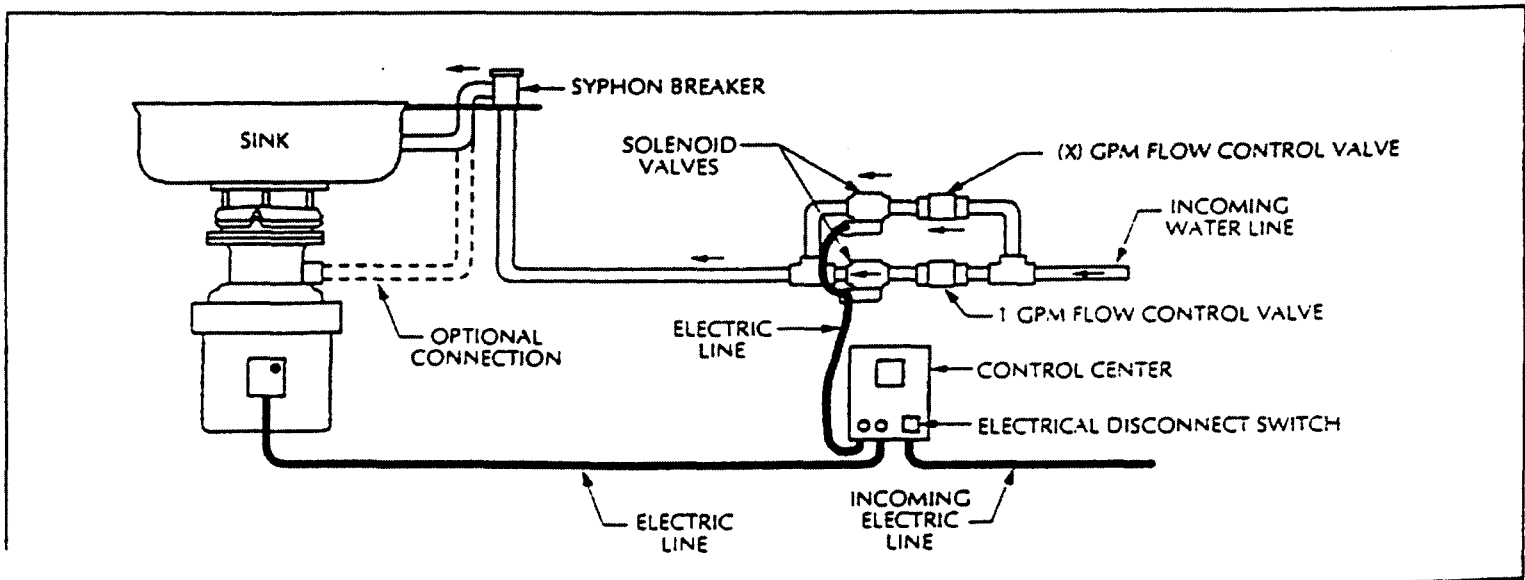

Figure 2. Typical Installation Diagram
*NOTE: The AS-101 K control center requires the use of two (2) solenoid valves and (2) flow control valves. Figure 2 shows the recommended installation for an AS101K control center.*